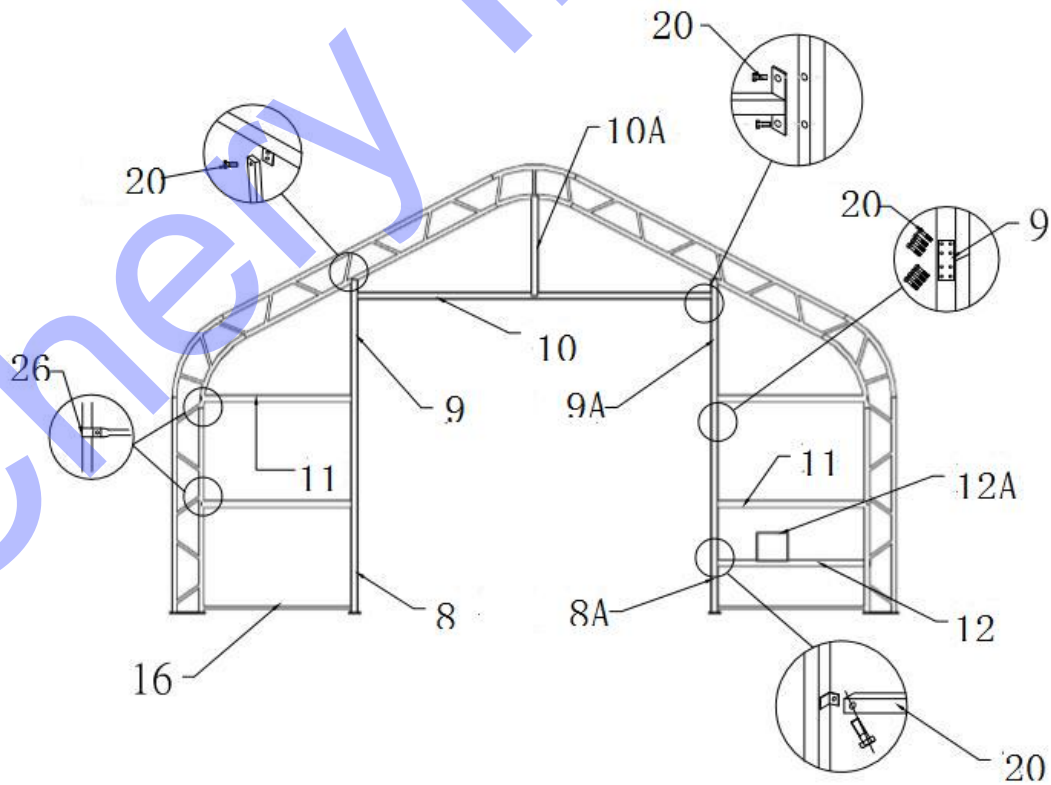

Figure 7: Front and Back door
1. Figure 7 shows to assembly the door frame according to Figure 7.